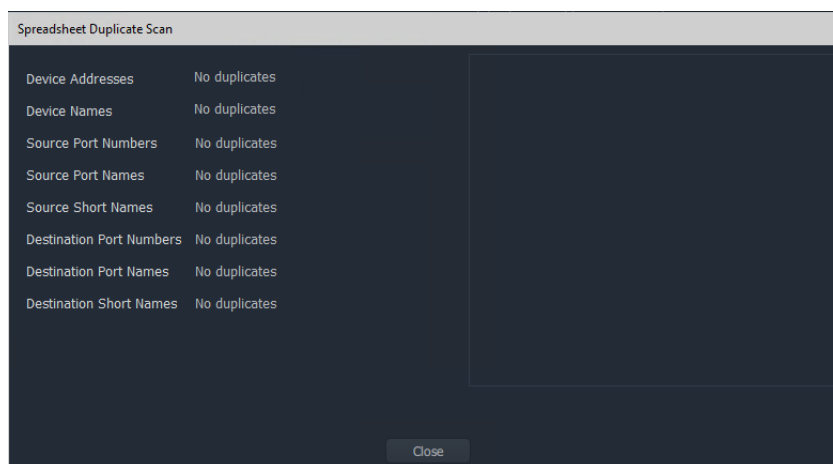

Fig. 11-15: Spreadsheet Duplication Dialog
- the result of these checks is shown in a summary **Spreadsheet Duplicate Scan** dialog, which pops up. See Figure 11-15.